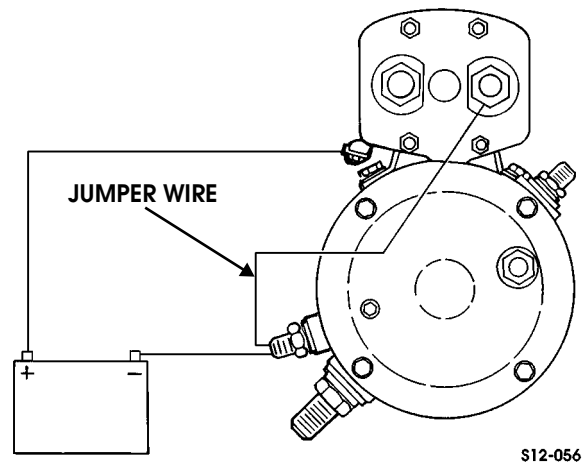

Figure 12-31: Battery and Jumper Connections for Pinion Clearance Check
1. Connect battery and jumper to starter as shown (Figure 12-31). Momentarily touch jumper to solenoid frame to shift pinion into cranking position.